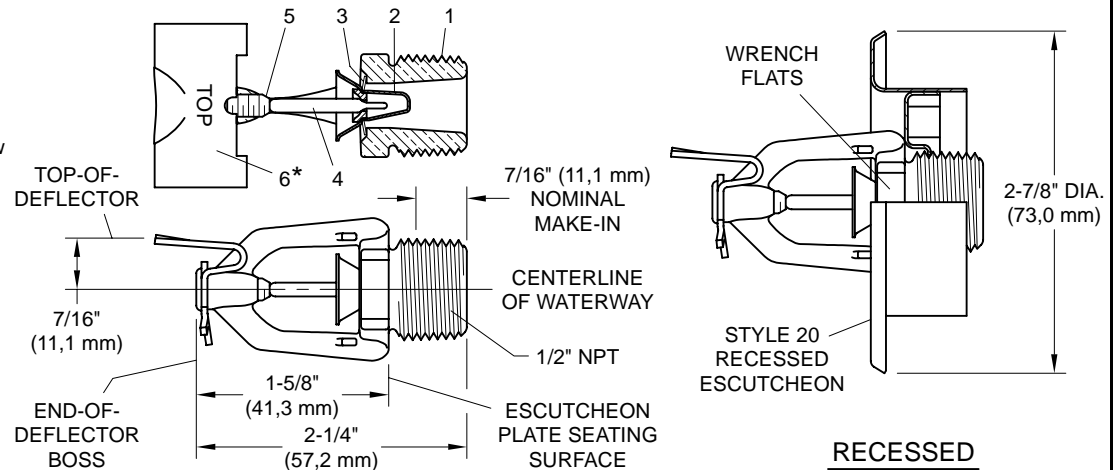
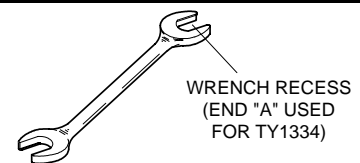
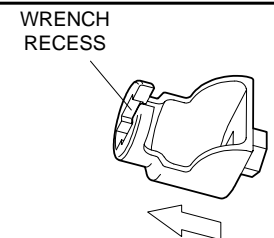

FIGURE 1
FIGURE 3
FIGURE 4
Step 3. Tighten the sprinkler into the sprinkler fitting using only the W-Type 6 Sprinkler Wrench (Ref. Figure 3). With reference to Figure 1, the W-Type 6 Sprinkler Wrench is to be applied to the wrench flats.
Step C. Tighten the sprinkler into the sprinkler fitting using only the W-Type 7 Recessed Sprinkler Wrench (Ref. Figure 4). With reference to Figure 1, the W-Type 7 Recessed Sprinkler Wrench is to be applied to the sprinkler wrench flats.